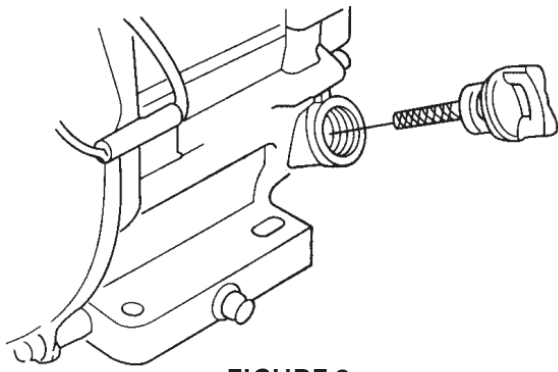

FIGURE 2
7.2.2 Remove the filler dipstick from the engine oil filler hole (Figure 2) and wipe it clean.